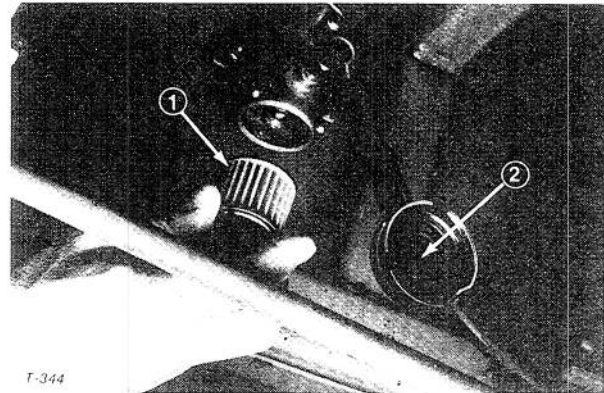

Figure 37
3. Place a drain pan under fuel pump and remove cover from fuel pump with 17 mm wrench (Fig. 37). Take care not to damage wire while removing cover.
4. Pull filter out of pump body (Fig. 37).
7. Clean magnet of any residue (Fig. 37), insert filter into body and install cover.